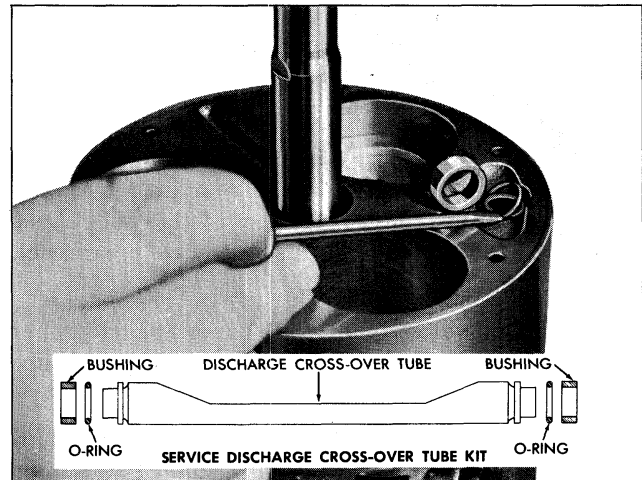

Fig. 5-31 Installing Service Discharge Crossover Parts
1. Install service discharge crossover pipe front "O" ring and spacer (Fig. 5-31).